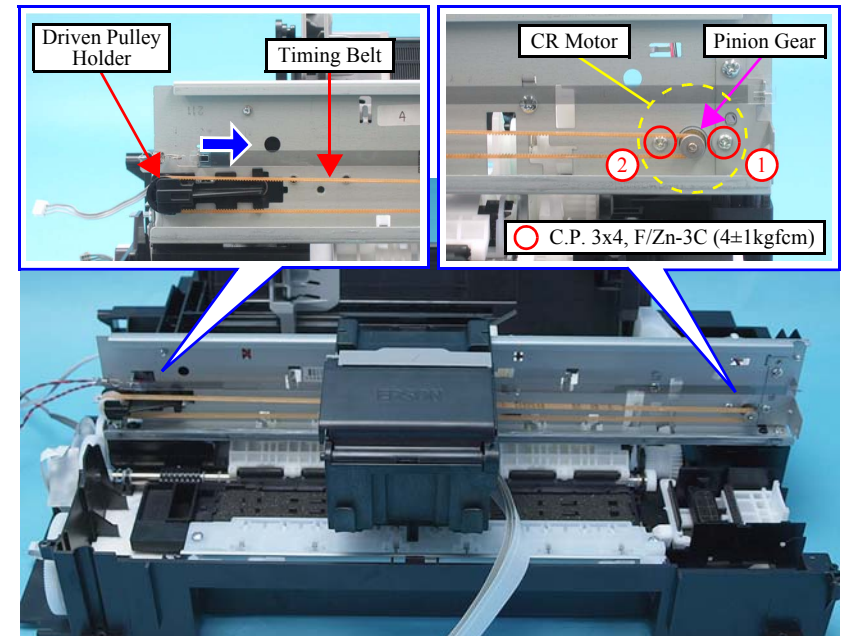

Figure 4-64. Removing the CR Motor (2)
- Tighten the screws in the order given in Figure 4-64.